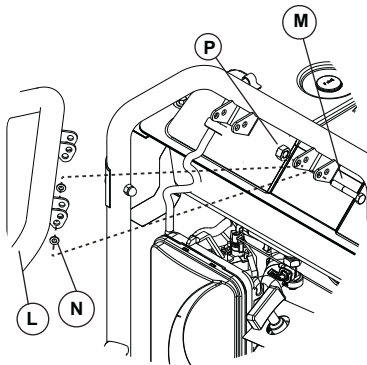

Figure 2-3. Handle
1. Place the handle brackets between the frame tabs as shown. Place a flat washer on the inside of each frame tab (Figure 2-3).